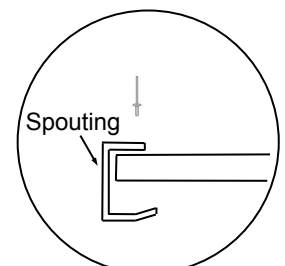

fig.5
- Place spouting in position and rivet to Barge Flashings at each end and rivet to roof sheets (1 rivet per 1 sheet) (**fig.5**).